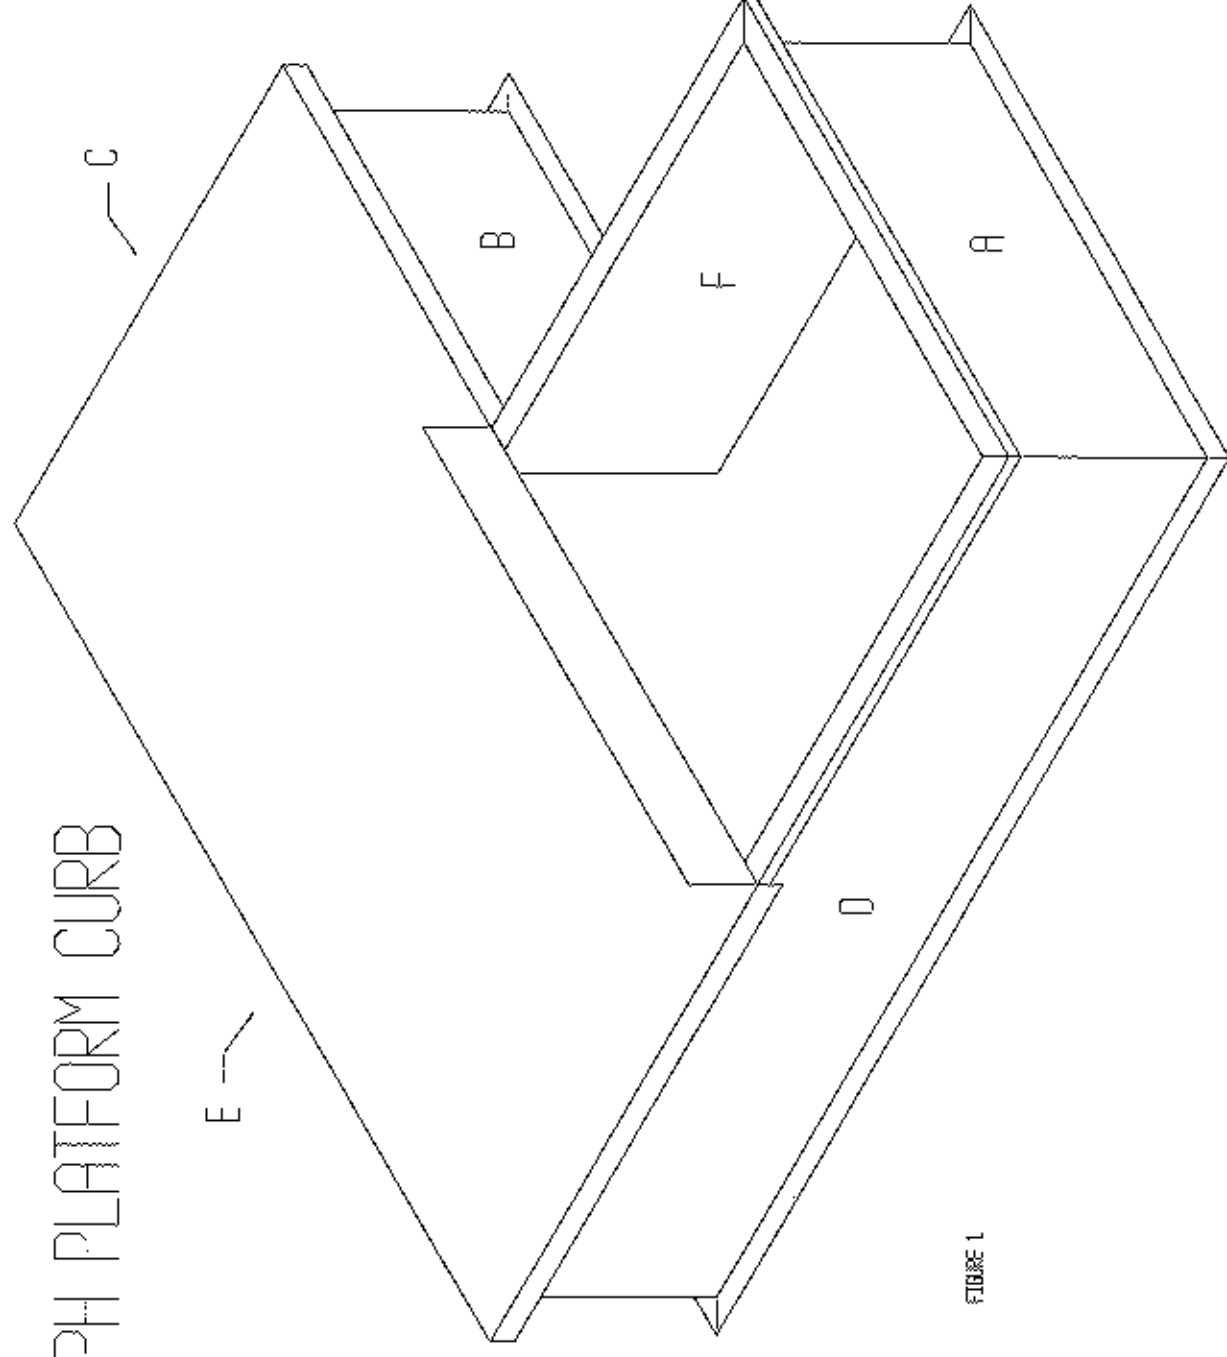

FIGURE 1
2. Lay out curb as illustrated in Figure 1.